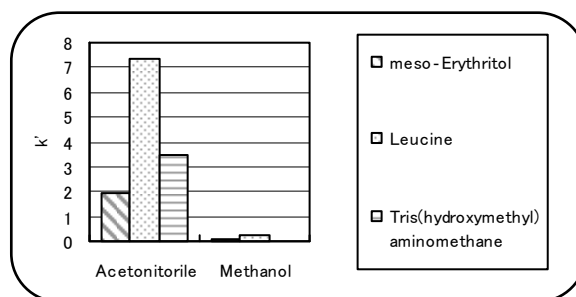

Fig.3 Difference of acetonitrile and methanol on retention
- Methanol/water generates shorter retention than acetonitrile/water. (Fig.3)